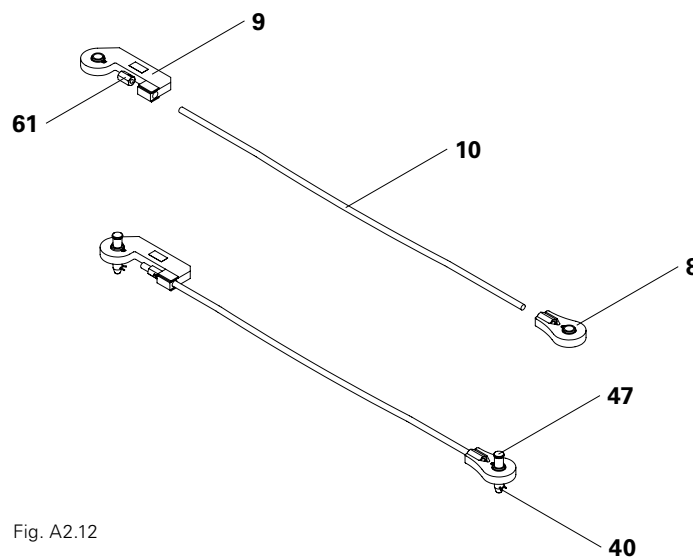

Fig. A2.12
1. Screw the tie rod (10) into the eye nut (8). (Fig. A2.12)